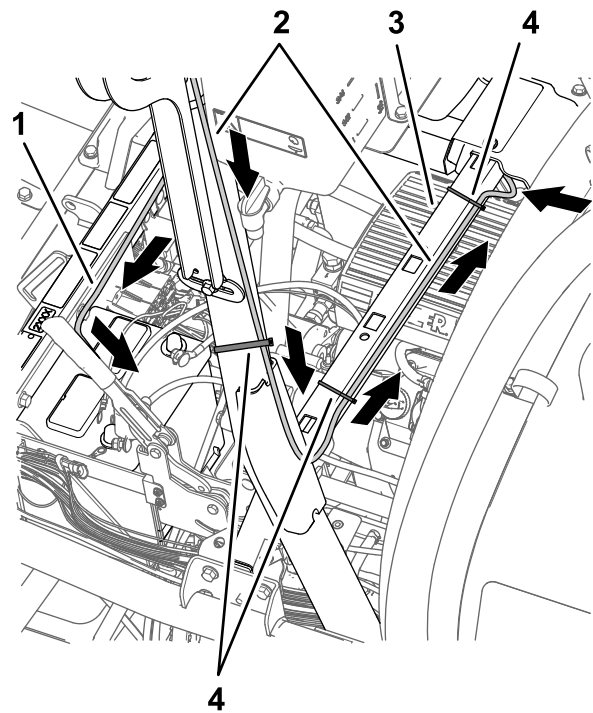
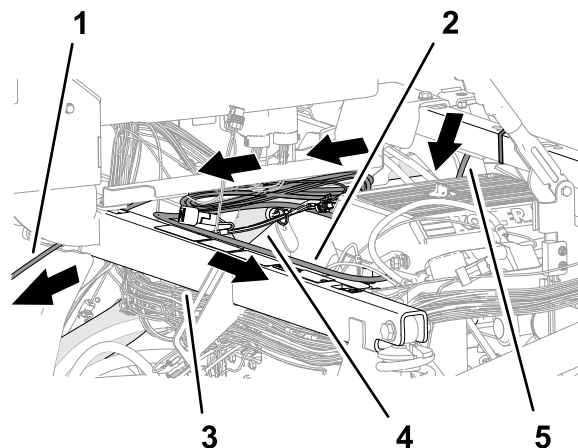

Figure 201
Figure 203
1. Route the data harness and battery harness down the back of the left, vertical roll bar to the cross member for the seat support (Figure 201).
2. Secure the 390 cm (153-1/2 inch) data-harness branch for the navigation receiver to the roll bar as shown in Figure 201.
5. Route the data harness and battery harness across the cross member for the seat support and secure the 390 cm (153-1/2 inch) data-harness branch to the cross member with 2 cable ties (Figure 201 and Figure 203).
6. Route the 220 cm (86-5/8 inch) battery-harness branch along the right, upper-frame tube (Figure 203).
7. Route the 220 cm (86-5/8 inch) battery-harness branch across the shock-support tube toward the battery (Figure 203).
8. Route the 220 cm (86-5/8 inch) data-harness branch (the harness branch with the 26-socket connector) below the control console and forward toward the dash panel (Figure 203).